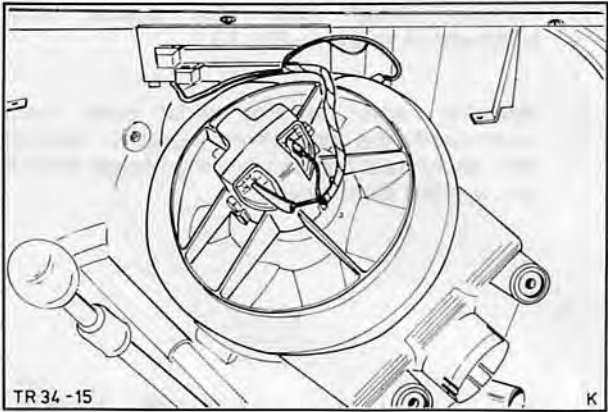

Fig. 16. Connect cables to blower motor
7. Install heater housing, connect cables to blower motor, Fig. 16, and secure housing to bulkhead with 4 bolts.